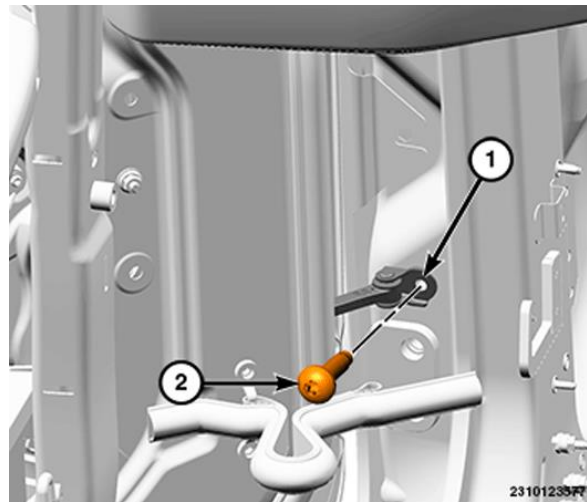

Figure 11 – Door Check Bolt
32. Remove the bolt (2) securing the door check (1) (Figure 11).